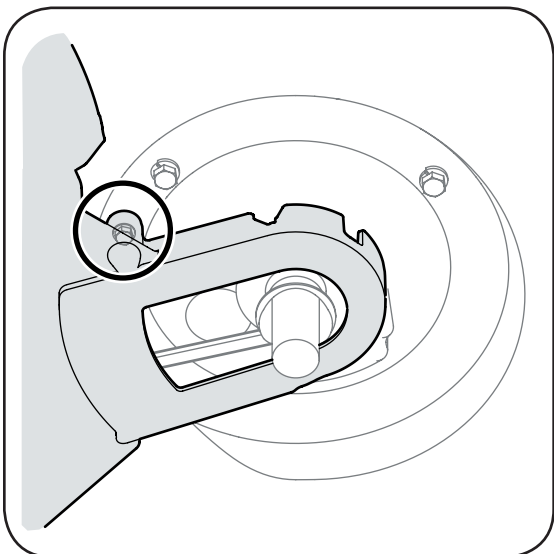

Figure 5-4: Loosen the screw that holds deck baffle onto deck.
5. Loosen self-tapping screw that secures deck baffle to the deck, Figure 5-4.